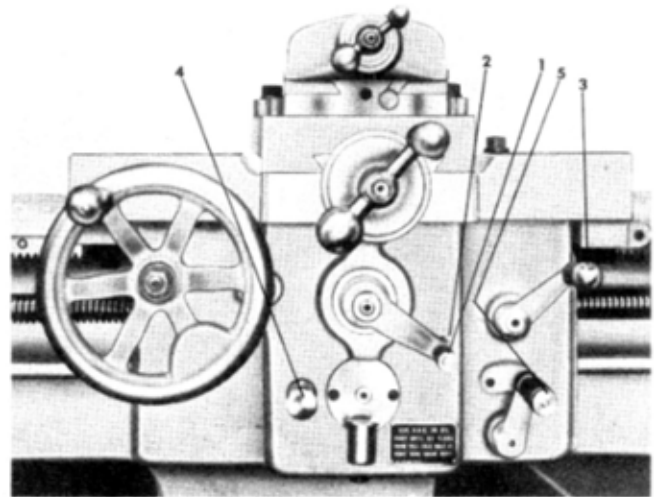

FIG. 8 - 17"-24" REGAL APRON
The construction of the 17"-24" Regal apron (figure 8) is similar to that of the 13"-15" but differs slightly in its operation. Lever (1) is moved down to engage the cross feed, and swings up past the stop (2) to engage the length feed. Lever (3) is the half-nut handle which can only be engaged when lever (1) is in neutral against the stop. Lever (5) is the apron feed reverse which reverses the direction of feed without shifting the headstock feed reverse. Of course, the direction of the leadscrew rotation must still be set at the headstock.